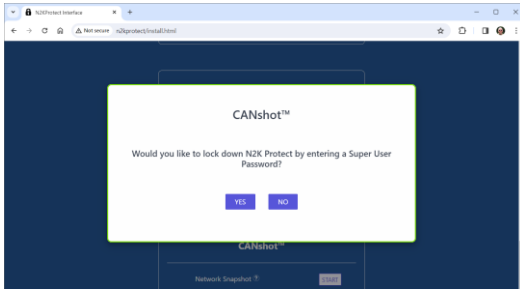

Figure 8
- When you start the **CANShot™** you are asked if you wish to “lock down” N2K Protect by creating a “Super User” password (see Figure 8). This ensures that only someone with the Super User password can make changes to the NMEA 2000 network.